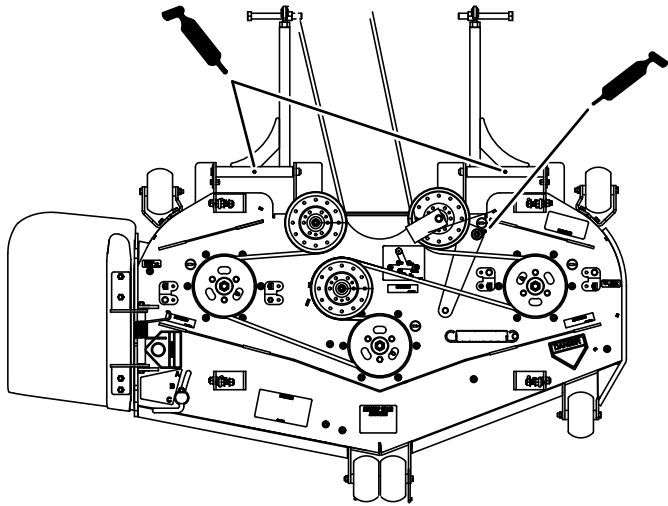

Figure 49
6. Grease the idler arm on the mower deck (Figure 49).
7. Grease the fittings on the push arms (Figure 49).